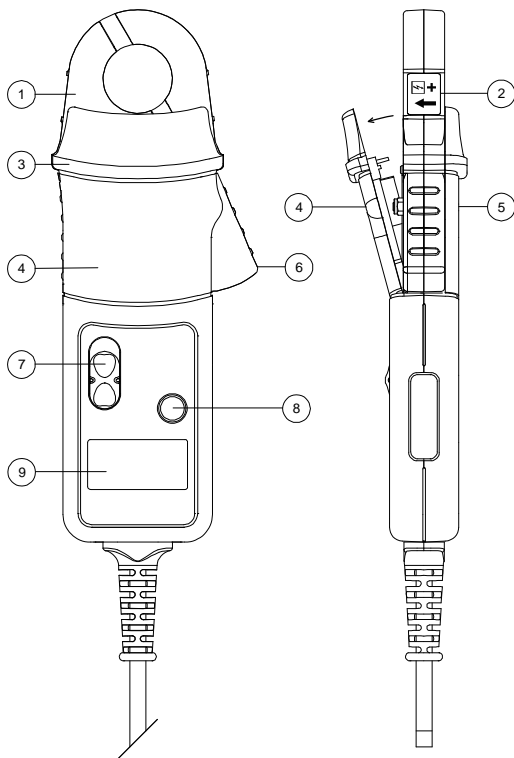

FIG 1
- Do not hold the probe anywhere beyond the tactile barrier see FIG 1.
When the Low Battery symbol is illuminated in the display the minimum battery voltage has been reached. Refer to Fig. 1 and use the following procedure to replace the battery.
Loosen the captive screw which secures the battery cover. Lift the cover through 30° and pull it clear of the body as shown in Fig 1. Replace the battery and re-fit the battery cover and fasten the screw .